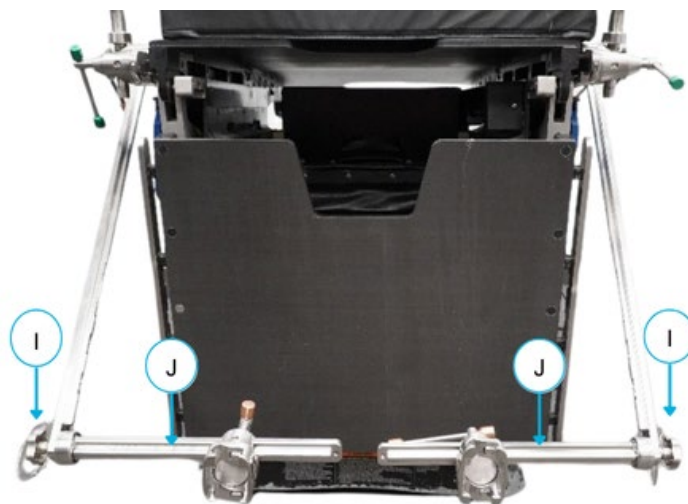

Figure 10-15: Horizontal (short) Stabilizer Mounts Attachment
5. Position the Vertical Stabilizer Mount in the Clark Clamp at approximately a 45-degree angle from the OR bed, with knob end (H) towards the floor.
7. Attach one Horizontal (short) Stabilizer Mount to the Vertical (long) Stabilizer Mount using attached knob (I) (**Figure 10-15**).
- Ensure ridged edges of Horizontal (short) Stabilizer Mounts are facing outwards (J)